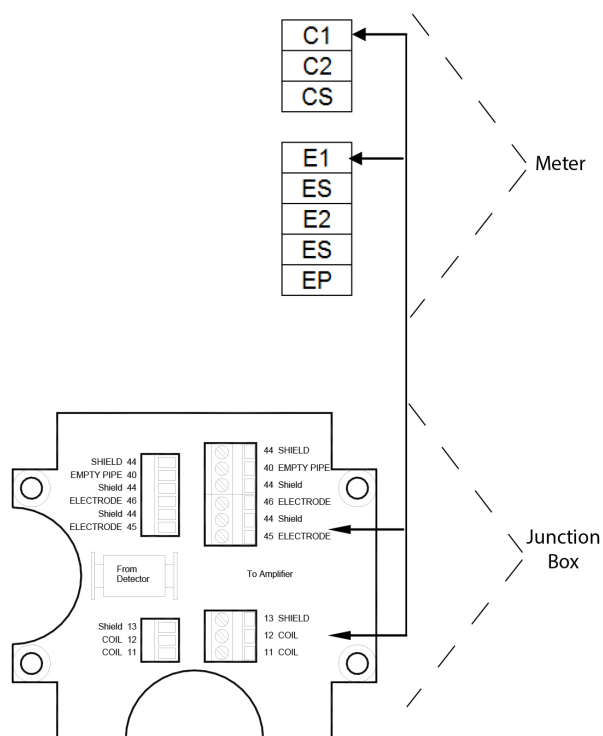

Figure 26: Remote version connection
3. Connect as shown in *Figure 26*.